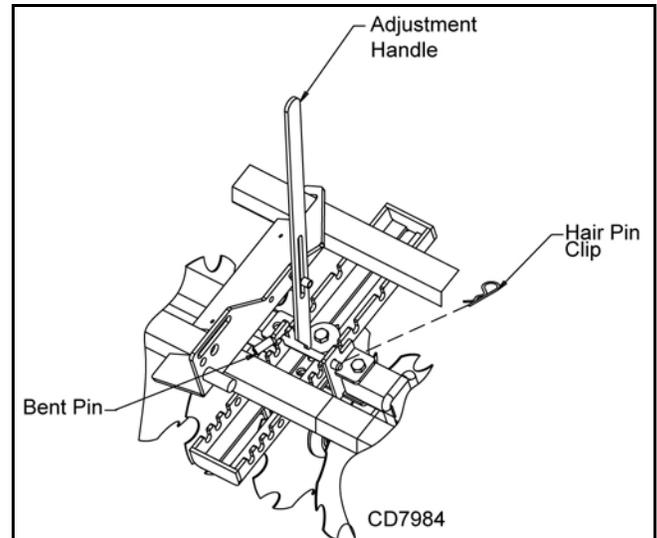

Figure 7. Disc Handle Adjustment (mast plate hidden for picture clarity)
4. Remove bent pin and hair pin clip from front of seeder. (See Figure 7).